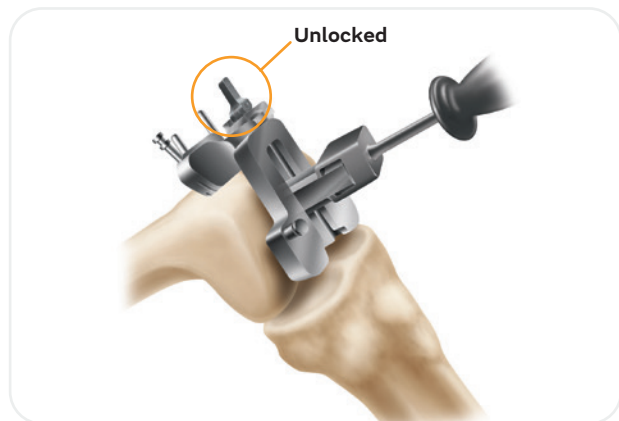

Figure 6
2. Unlock the lever on the valgus alignment guide, remove the intramedullary rod and the valgus alignment assembly using the universal extractor (**Figure 6**). Only the distal femoral cutting block should remain on the femur.